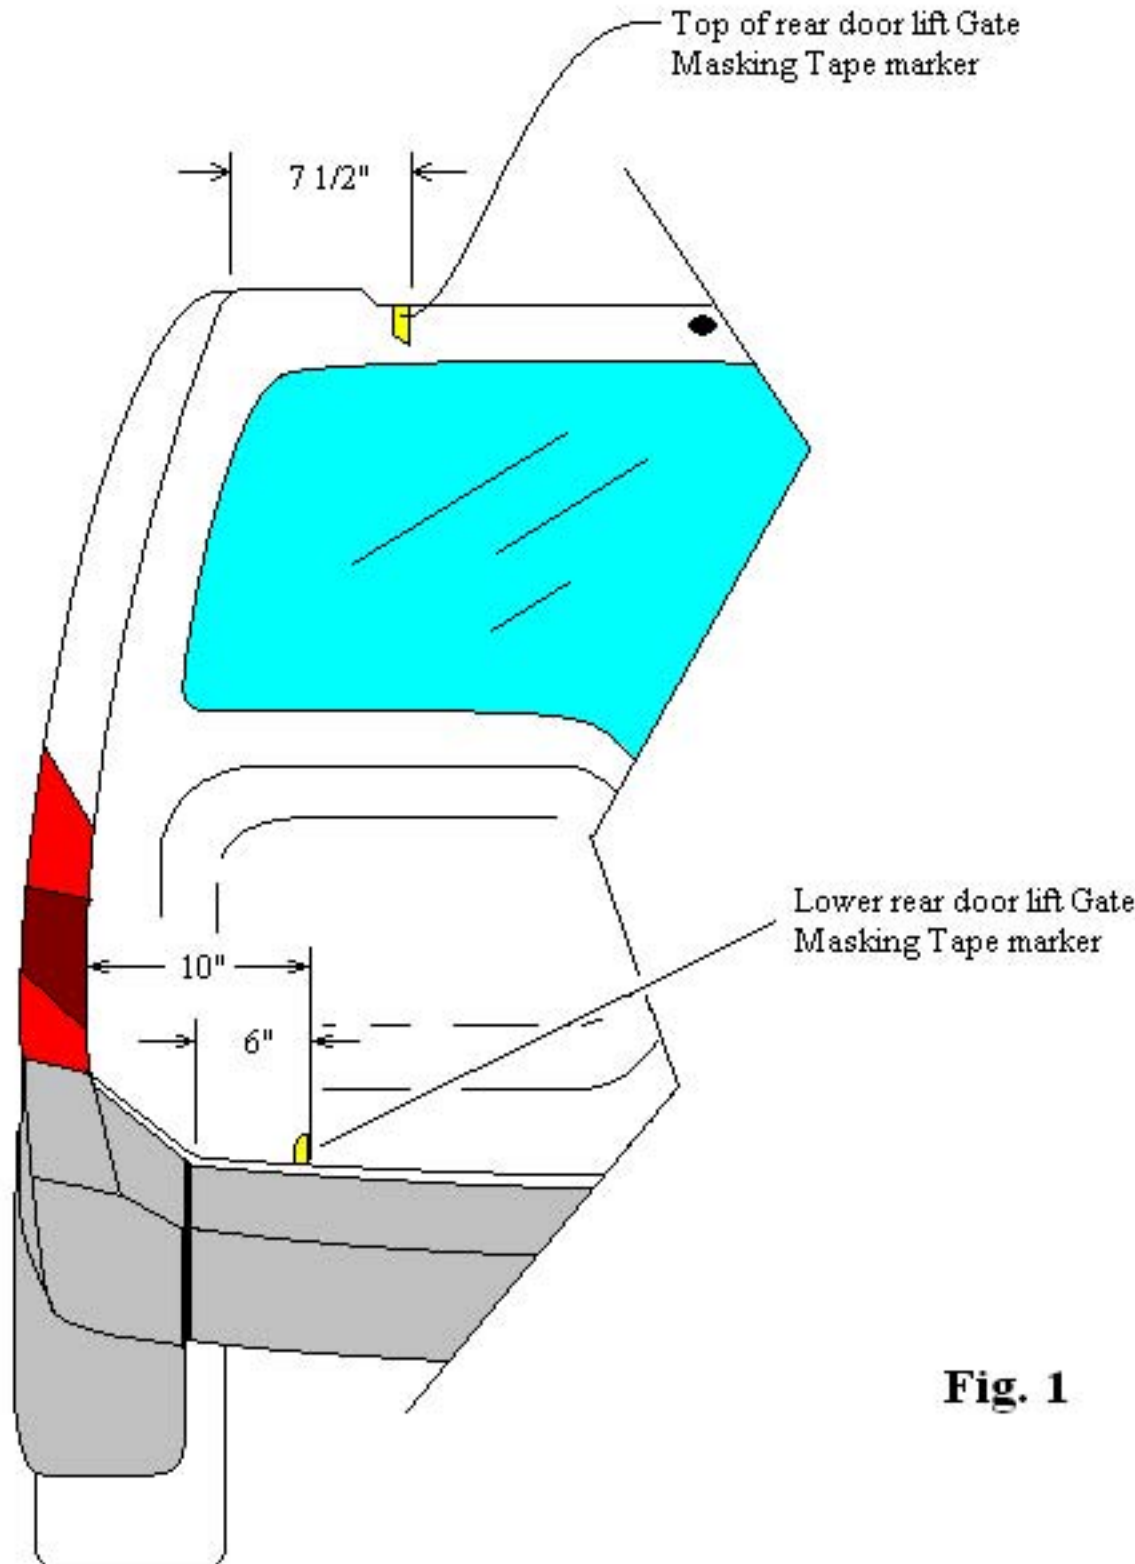

Fig. 1
- 2- Refer now to page 4 using masking tape or the like attach a piece of tape as shown in Fig. 1 at the top of the rear door Lift Gate approximately 7 1/2" from the top left or drivers side edge. Continue to the bottom of the rear door Lift Gate and attach a piece of masking tape to the lower edge of the door as shown in Fig 1 10" from the left side or drivers side door edge.